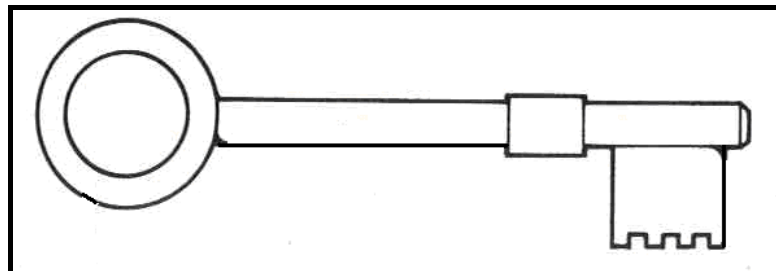

FIGURE 4.3
- 4.3 The key, as shown in FIGURE 4.3, is manufactured from specific materials so that it is suitable for **heavy-duty** use.